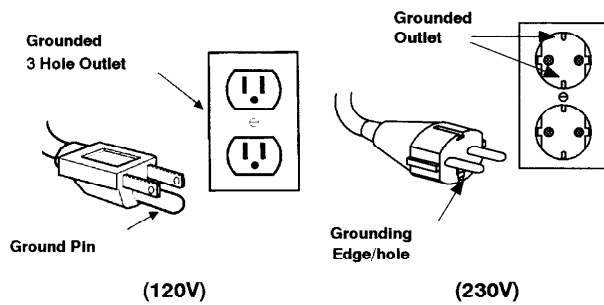

FIG. 7
4. Plug power cord into a grounded wall outlet (Figure 7).